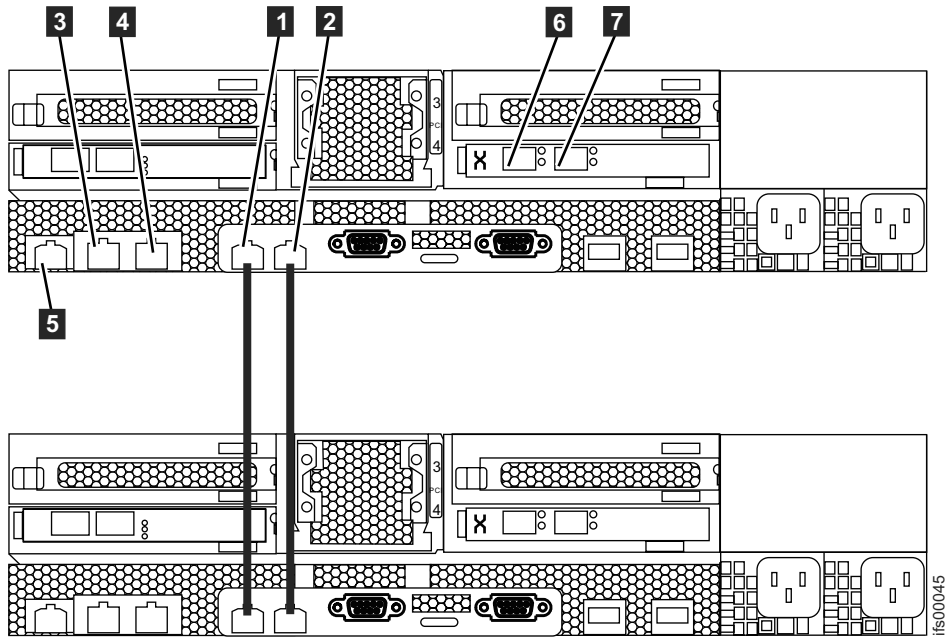

Figure 39. File module Ethernet direct connections.
This task assumes that your initial planning has determined where the Ethernet cables are to be located. The Storwize V7000 Unified control enclosure requires at least one and a maximum of two 1 Gbps Ethernet connections. Refer to Figure 37, Figure 38 on page 49, and Table 15 on page 49. For the file modules, the first two 1 Gbps Ethernet ports labelled **1** and **2** in Figure 39 on page 50 are used for internal communications between the file modules. The third and fourth 1 Gbps Ethernet ports are used for management and data (if needed). All 10 Gbps Ethernet ports are dedicated to data. Management cannot be performed over the 10 Gbps Ethernet. Refer to Figure 39 on page 50 and Table 16 on page 50.
If you encounter that situation, change the service IP addresses on the new nodes before connecting the Ethernet cables. For details, see Figure 39 on page 50 or see the *Storwize V7000 Unified Problem Determination Guide* PDF on the DVD for further information about setting service IP addresses using a USB flash drive.
- Connect an Ethernet cable from Ethernet port 1 on the first file module to the first Ethernet port on the second file module. Refer to Figure 39 on page 50 for port locations.
You have two 10 Gbps Fibre Ethernet ports available for host connections from each file module. The ports are on the PCI card located in slot 4. Connect your network cables to the Ethernet ports in these slots as applicable. Refer to Figure 39 on page 50.